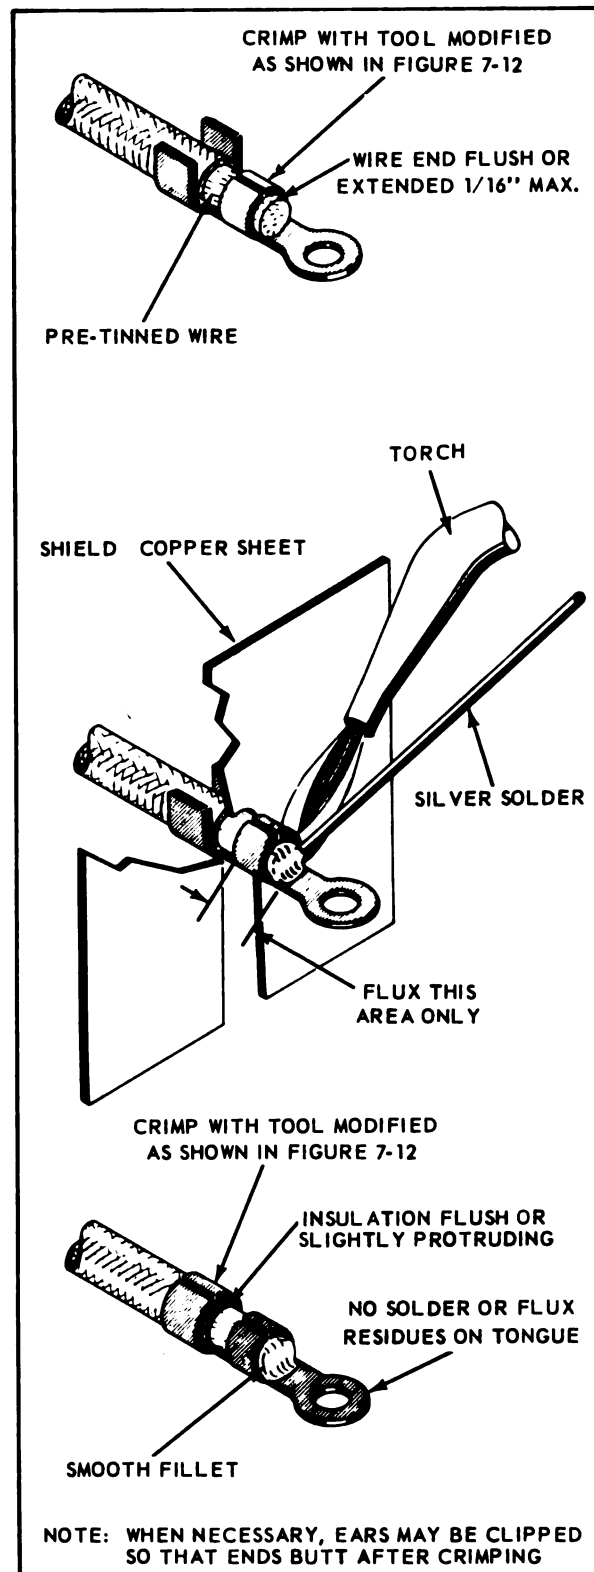
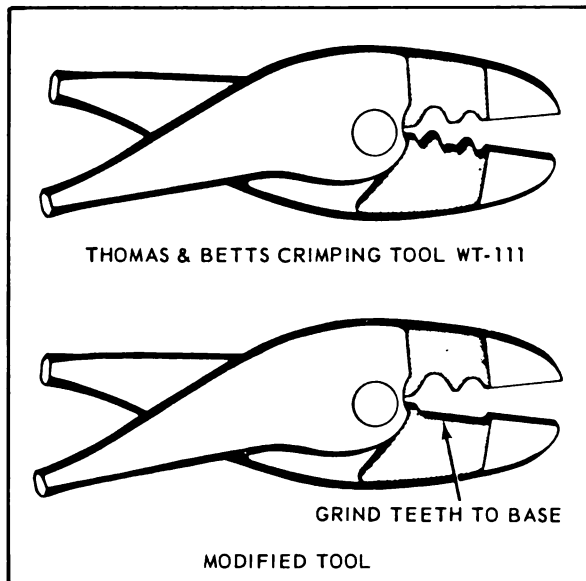

Figure 7-11. Silver Soldering Thermocouple Wire to Terminal
Figure 7-12. Modified Crimping Tool for Thermocouple Terminals
- Install terminal on wire so that insulation is flush with or protrudes slightly beyond insulation grip. The tinned portion of the conductor should then be inside the wire grip. (See figure 7-11).
- Crimp wire grip over conductor using modified crimping tool illustrated in figure 7-12.
7-21. TORCH SOLDERING TERMINALS TO THERMOCOUPLE WIRE. (See figure 7-11).
b. Secure insulation grip on insulation using modified crimping tool shown in figure 7-12. The final result is shown in figure 7-11.
a. Install terminals on thermocouple wires as described in 7-20, and illustrated in figure 7-11.
d. Bend insulation grip ears around insulation using modified crimping tool shown in figure 7-12. Trim ears so they butt flush around small wires. See figure 7-11.